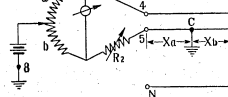

FIG 9
- (2) Connect post 8 to ground instead of good wire. Balance the bridge with the original ratio, and obtain reading R_2 (Fig 9) Resistance of X_b is